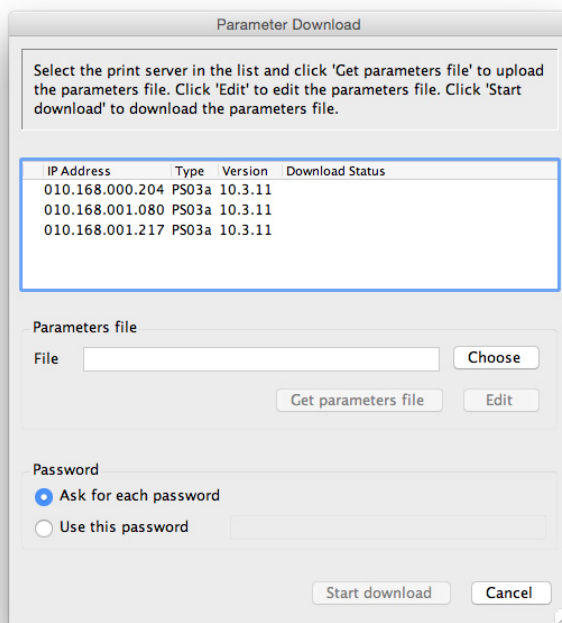

Fig. 7: InterCon-NetTool - Parameter download
3. *Select Actions – Download parameters file an. The Parameter Download dialog appears; see Fig. 7 ⇨ 112.*
The Parameter Download dialog appears; see Fig. 7 ⇨ 112.